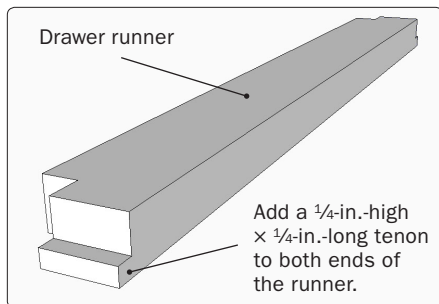

Figure 22. Work on a temporary copy to add the tenons to the drawer runner.
Step 22 Create a temporary copy of the drawer runner and move it a short distance from the assembled table structure. It's much easier to add the tenons to the ends of the runners if you work on a copy separated from the assembled table. Place a guide line ¼ in. above the bottom edge of the runner. Right-click on the runner, choose Edit Component from the pop-up menu, and trace a line over the guide line for the top edge of the tenon. Use the Push/Pull Tool to make a ¼-in.-long tenon. Repeat those steps to create the tenon on the other end of the runner (Figure 22). After you complete the tenons, delete the temporary copy.